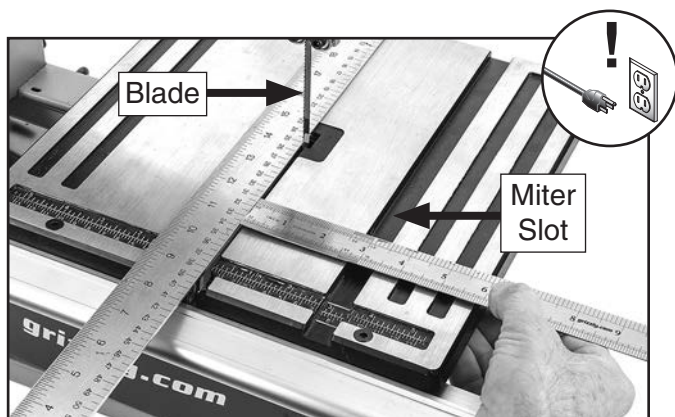

Figure 29. Example of placing a straightedge along blade and measuring to miter slot.
3. Place straightedge along blade so it barely touches both front and back of blade without going across a tooth (see **Figure 29**).
4. Measure distance between straightedge and miter slot (see **Figure 29**). Distance should be same at front and back of table.